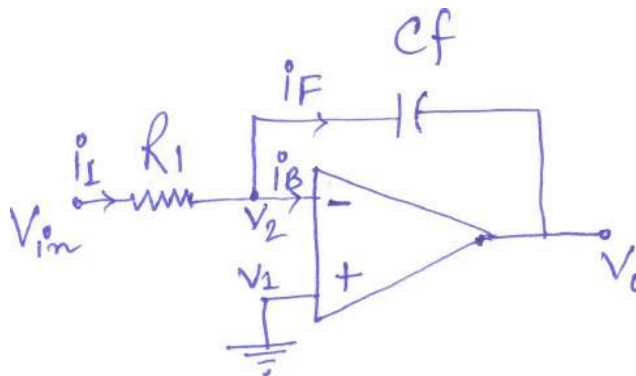

Fig.3.24 Integrator circuit
- 3.6.4.20 An integrator circuit based on op-amp is shown in Fig.3.24